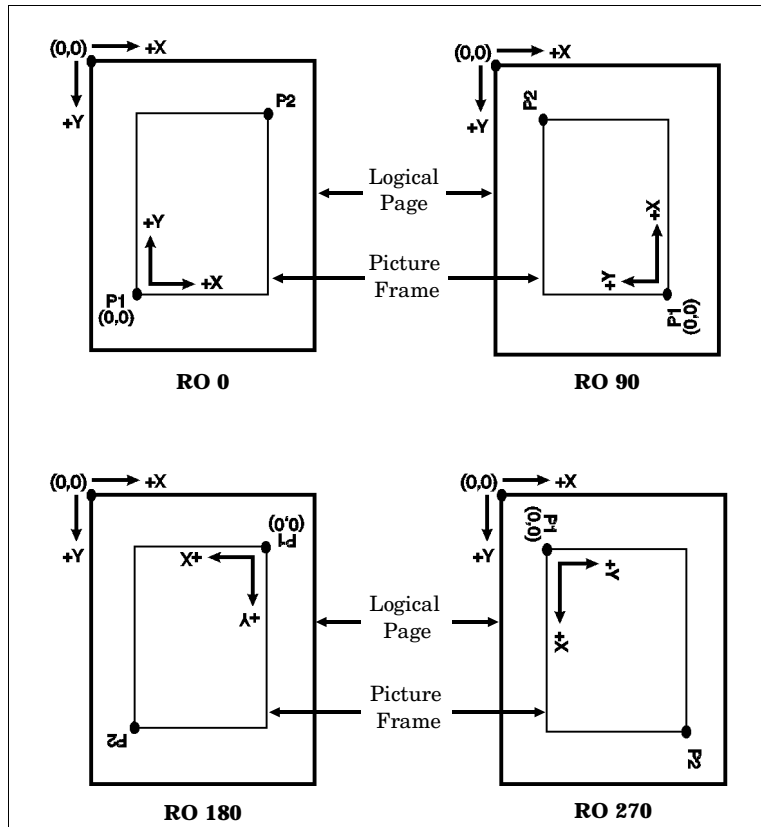

Figure 10-3. Modifying the Default HP-GL/2 Orientation
If an orientation change is desired, the orientation of the HP-GL/2 plot is specified by the HP-GL/2 Rotate command (RO) (see Figure 10-3). A change in print direction has no effect on the picture frame anchor point, the physical position of the picture frame, or the HP-GL/2 orientation.
The default HP-GL/2 orientation can be modified from the HP-GL/2 environment with the HP-GL/2 rotate command (RO). Rotations specified by the RO command are relative to the default HP-GL/2 orientation. Figure 10-3 shows how the RO command modifies the default HP-GL/2 orientation.